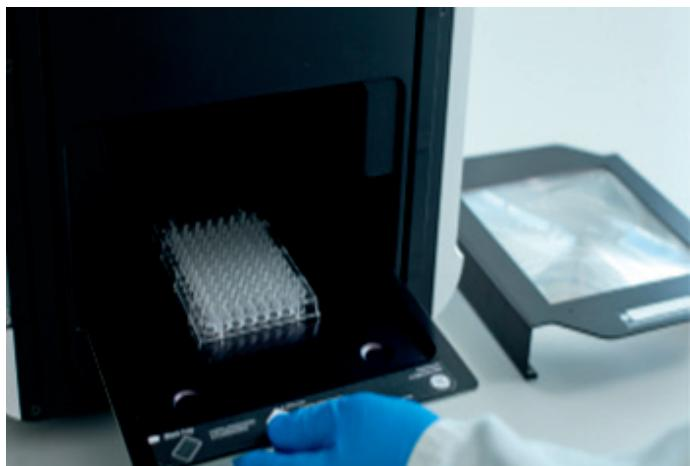

Fig 13. Use an NP lens to avoid optical artefacts (also called parallax errors) and avoid shadows caused by multiwell plates.
ImageQuant 800 systems are truly adaptable, allowing users to image not only gels and blots but a wide variety of samples (Fig 12). This versatility makes an ImageQuant 800 imager ideal for multi-user environments accommodating many different types of samples and applications. Special accessories, such as the non-parallax (NP) lens, allow users to get artifact-free chemiluminescence images of petri dishes and multiwell plates (Figs 13–14).